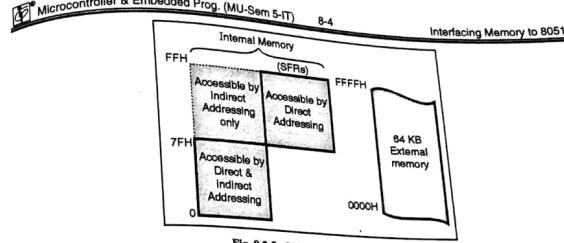

Fig. 8.2.5 : 8051 data memory map
- Fig. 8.2.5 shows a memory map of the 8051 data memory.